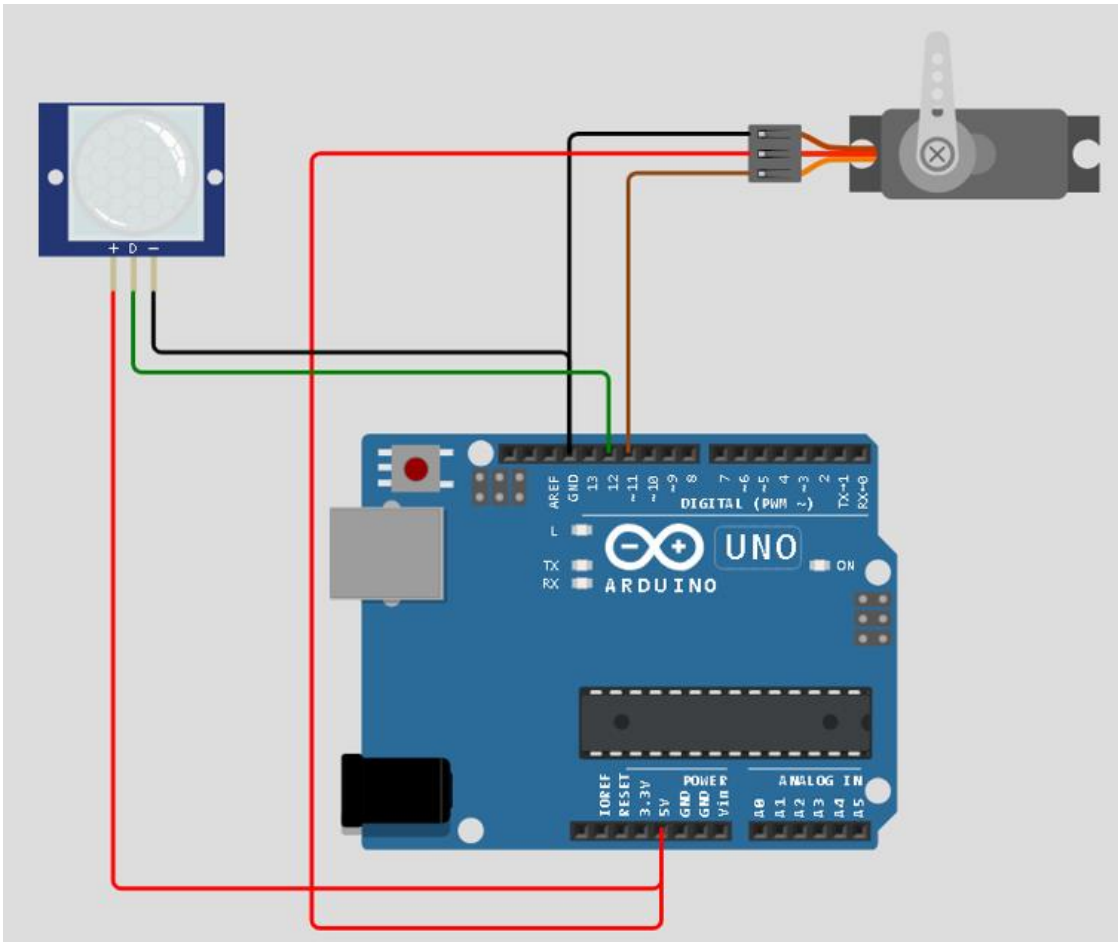

Figure 8.2
b. The circuit in figure 8.2 automatically controls the door (Servo motor) with PIR Motion Sensor. Design the circuit using Wokwi using the below items.